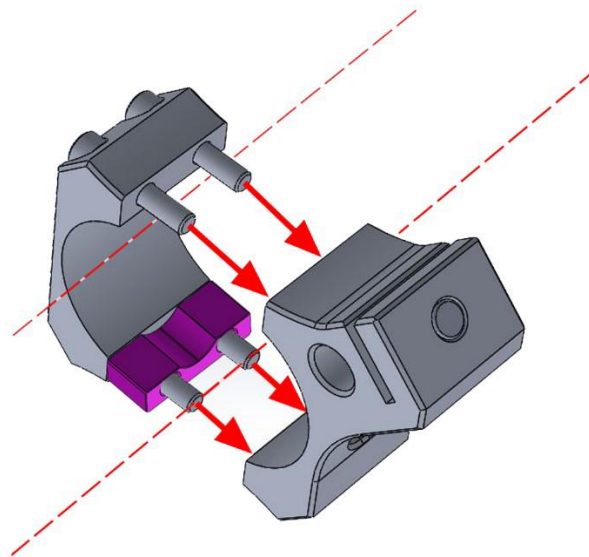

Figure 2-1
2. Take the lower roll cage mount, this is the mount that has the steel pin pressed into it, and attach it on to the roll cage using the M6x1.5x40 bolts. Be sure the supplied spacer is positioned onto the bolts as shown. Hand tighten only at this time.(fig. 2-1)